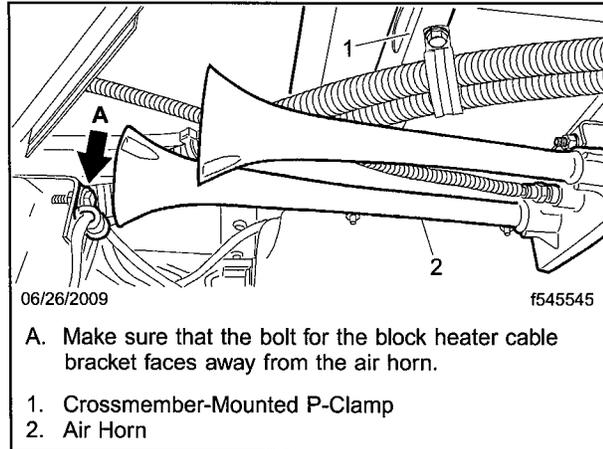

Fig. 5, Battery Cable Mounting
15. Secure the cable to the cab crossmember with a 1/4-20 bolt, flatwasher, lockwasher, and a nut. Tighten the nut 12 lbf·ft (16 N·m). See **Fig. 5**.